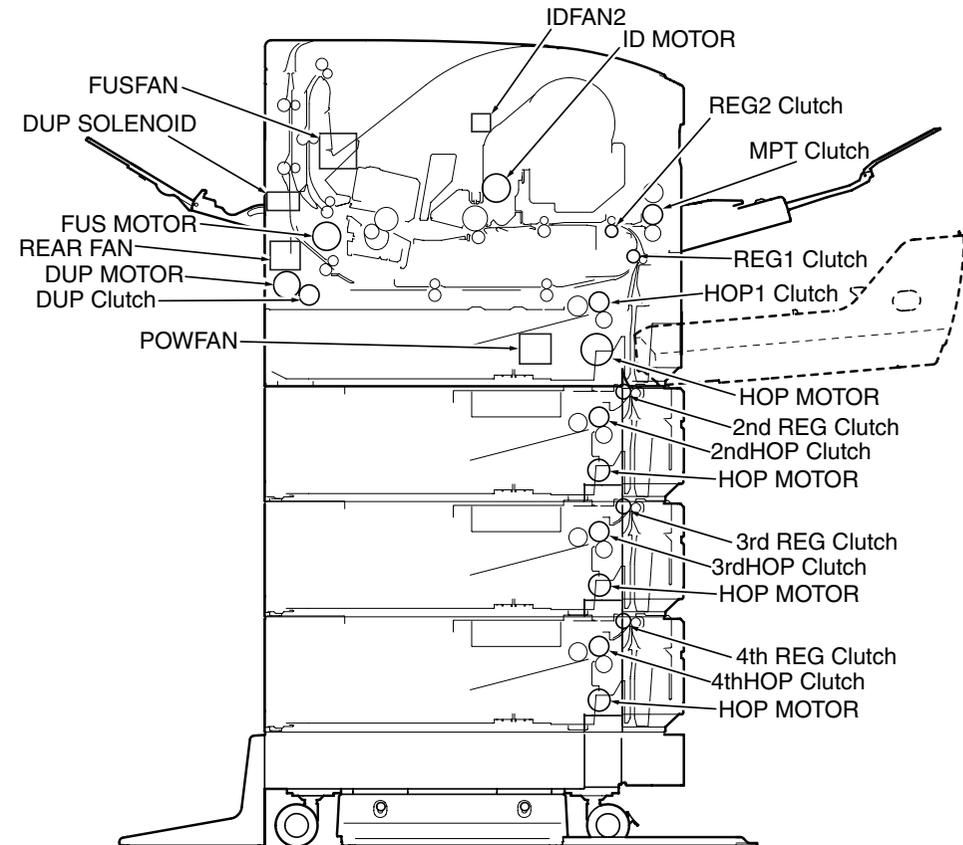

Figure 4-2
3. Press the ENTER button. The motor and clutch test starts, the unit's the name and current status starting to blink, and the unit being driven for ten seconds (refer to figure 4-2).